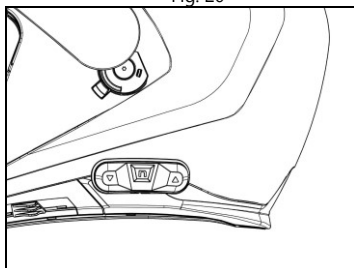

Fig. 22
- The proper positioning of the keypad is illustrated in Fig. 22.